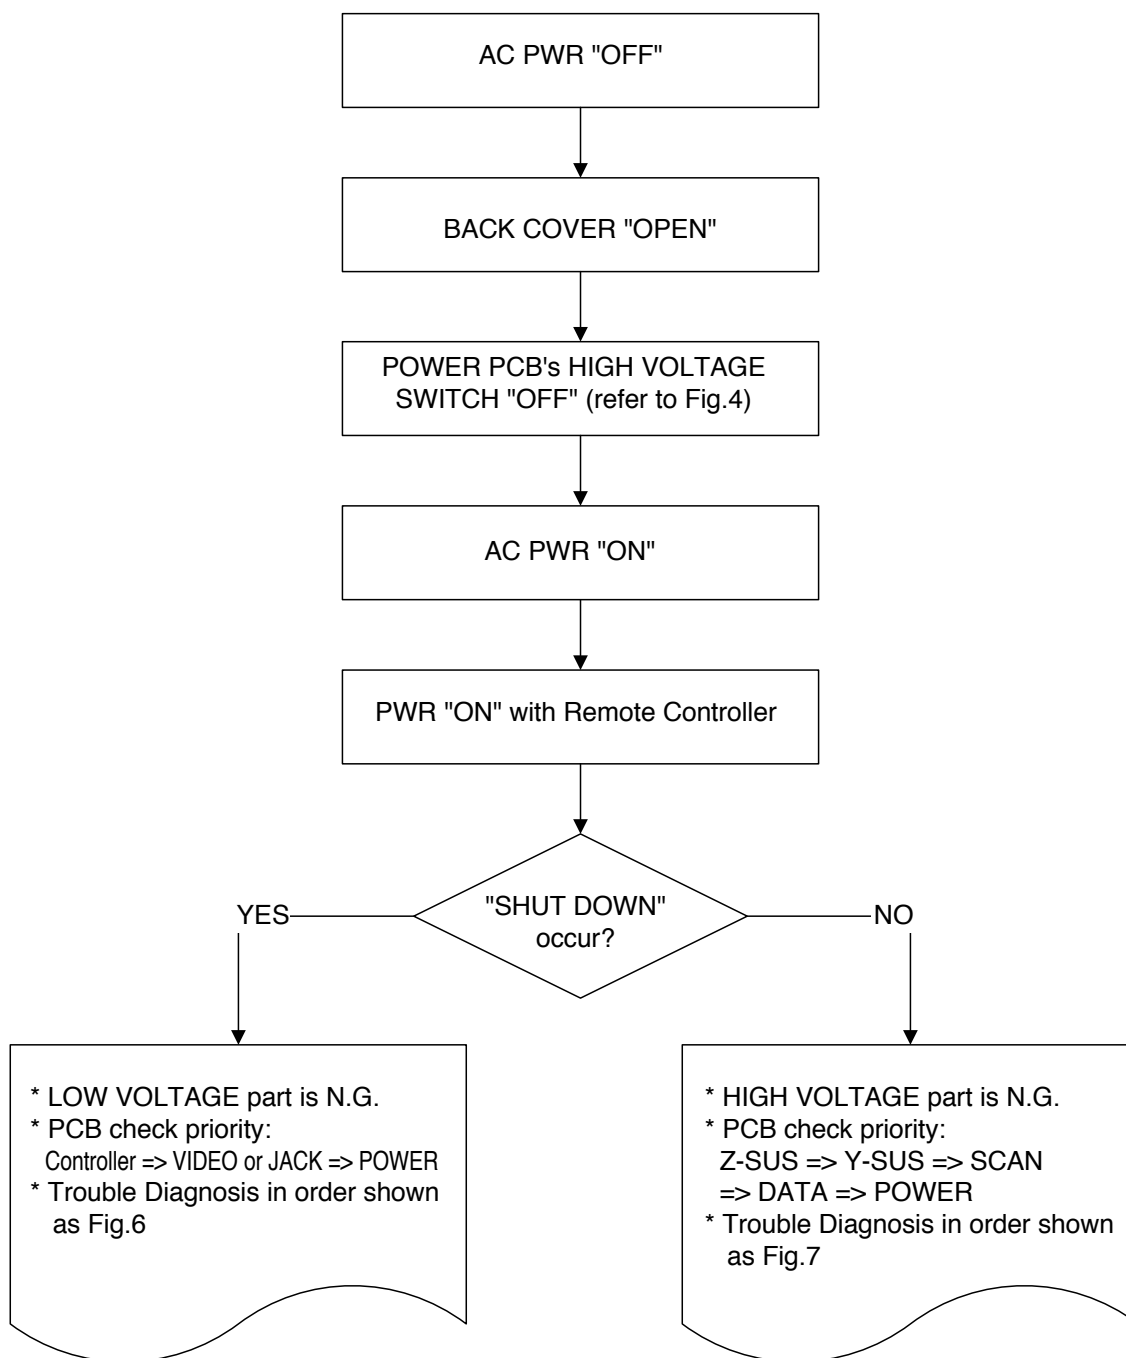

Fig. 5 Trouble Diagnosis Flow when "SHUT DOWN" occurs
- (1) When POWER SHUT DOWN occurs
- As shown in Fig. 5, first check which of “LOW VOLTAGE” part or “HIGH VOLTAGE” part has a trouble.